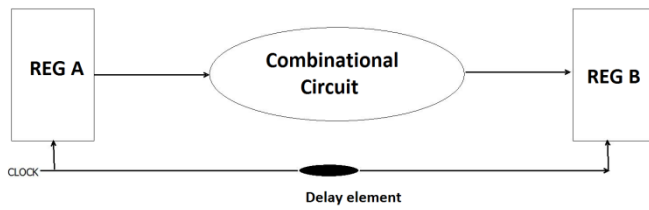

Figure 1: Question no.5
5. For the circuit shown below (fig.1) what is the maximum permissible positive clock skew.
[4] For CMOS layout shown in Figure 1, $C_{ox} = 5 \times 10^{-3}$ F/m², $C_{j0sw} = 5 \times 10^{-10}$ F/m, $C_{j0} = 5 \times 10^{-4}$